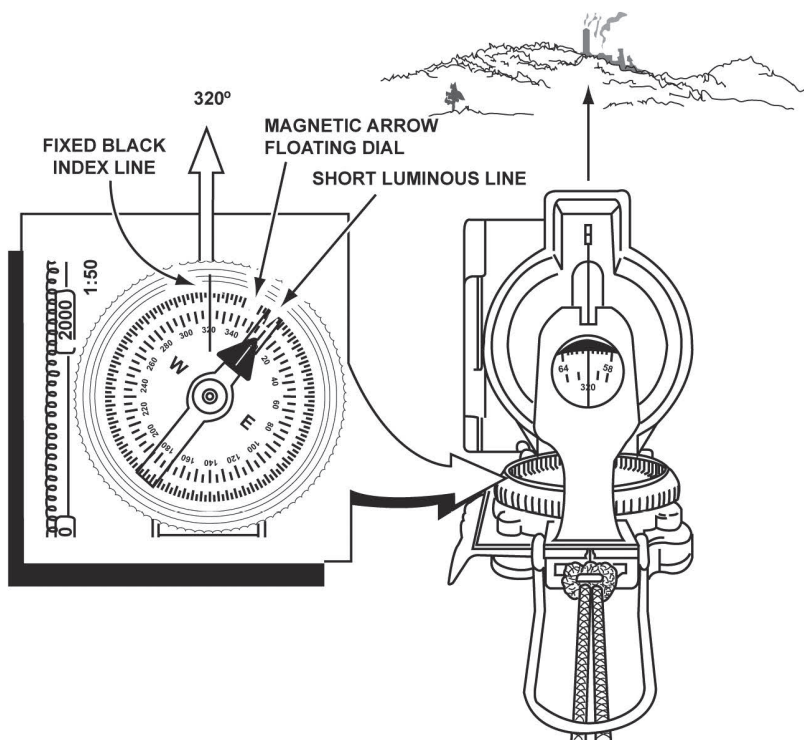

Figure 4. Reading the azimuth.
- k. Read the azimuth under the index line (Figure 4).